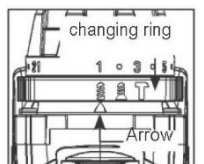

Fig. 16
1. Turn the action mode changing the tool body points to the "⚙️" marking. (Fig. 16)